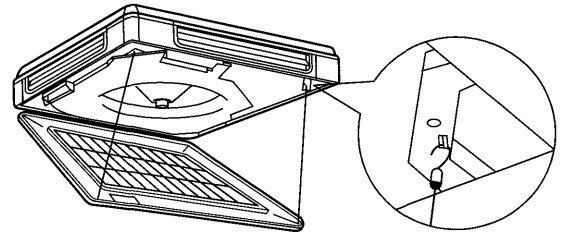

Fig. 36
- Hook the strings to the unit to prevent the grille from dropping. (Refer to Fig. 36)